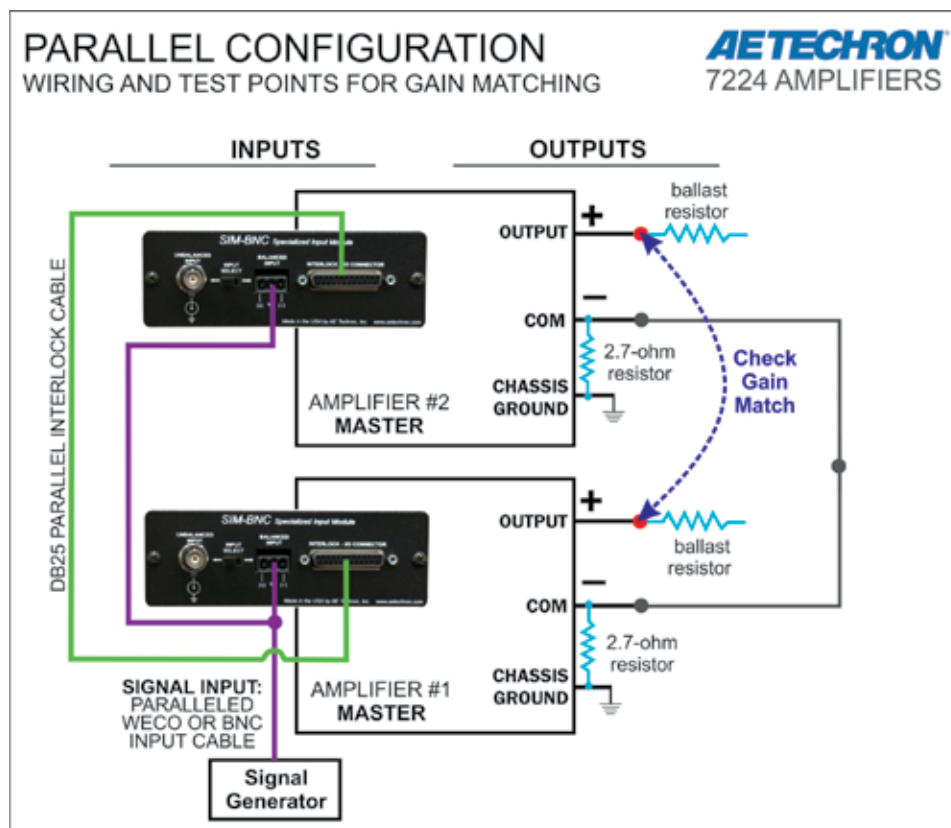

Figure B.2.28 – Wiring and Test Points for Gain Matching
- A. Connect a digital voltmeter set to AC volts between the positive outputs of the first and the second amplifier (see **Figure B.2.28**).